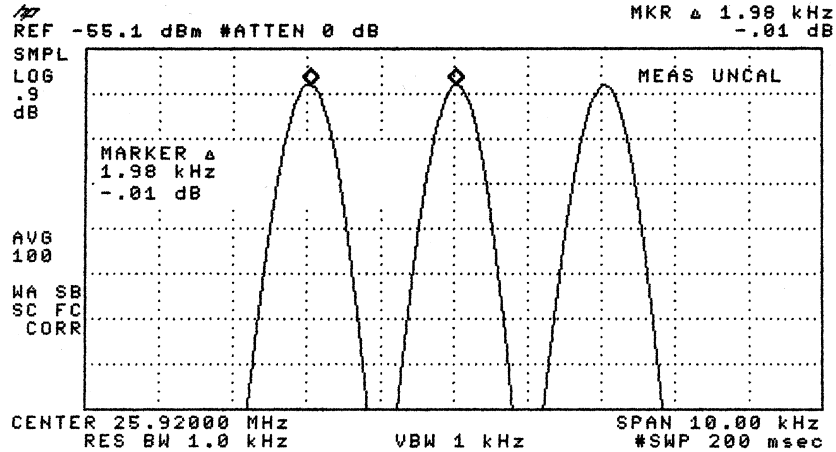

Figure 3-11 Carrier/Sideband Equal Example
- 23** Adjust the OmniBER's jitter amplitude (approximately 0.91 UI) and adjust until the Carrier and first sidebands observed on the Spectrum Analyzer are the same amplitude within 0.10 dB (see Figure 3-11).